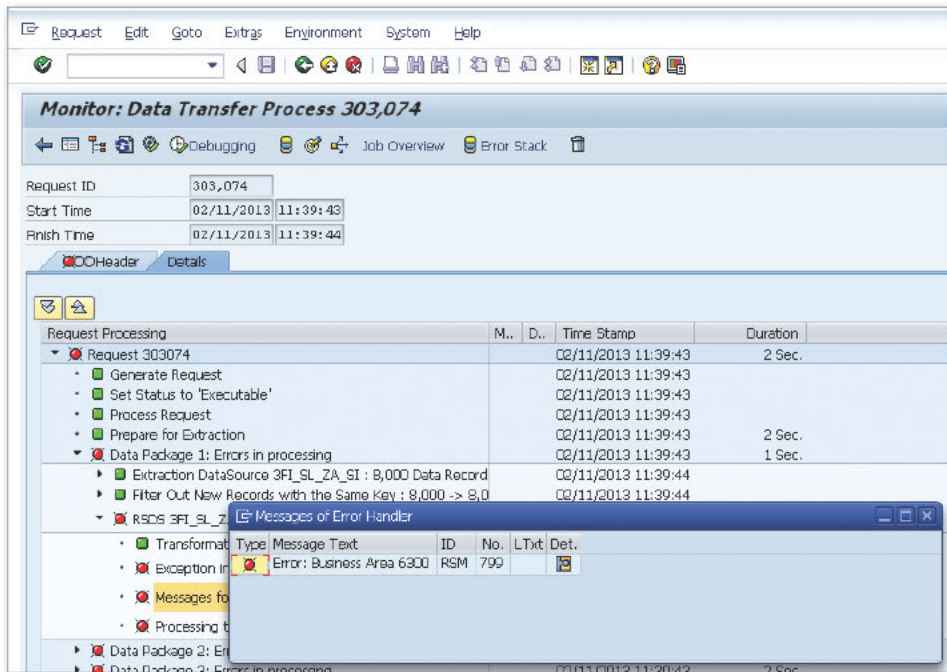

Figure 3 Displaying a Custom Message
11. If you further drill down by right-clicking on the message and choosing **DISPLAY MESSAGES OF ERROR HANDLER**, the system will show the message you see in Figure 3.